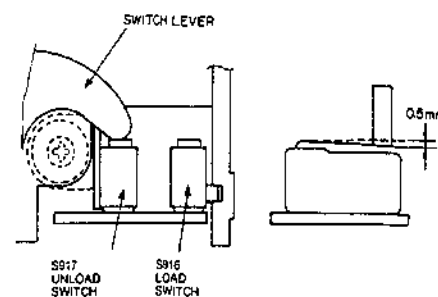

Fig. 84
Turn the worm gear in the loading direction and adjust the installation of the micro-switch so that the switch lever (1) is stopped by the click of the plate spring and then is pushed in by a further 0.5 mm from the position where the micro-switch comes ON. (Fig. 84)